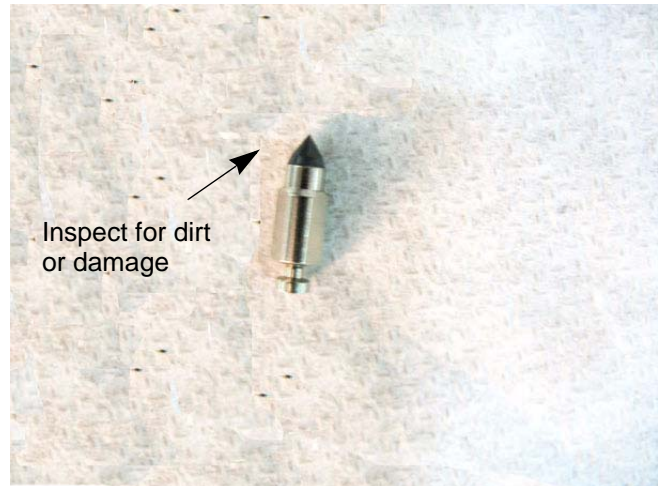

Figure 6.5
- 3d. Inspect the metering valve and the metering valve seat for dirt and/or pitting. See Figure 6.5.